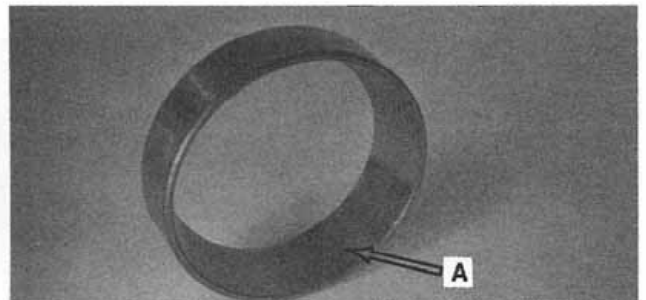

Figure 4:
The bearing cup exhibited (Fig. 4) has a slight amount of debris indentation in the raceway (A) but no evidence of spalling, brinelling or pitting and therefore is reusable.